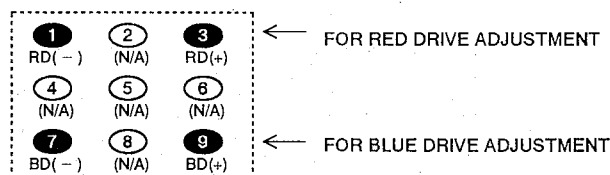

Figure 5. Remote Control Number keys function in Service Menu "NO. 40 DRV"
12. Adjust Red and Blue Drive Levels alternately with "1", "3", "7" or "9" key to produce normal black and white picture in highlight areas. (See Figure 5 below.)